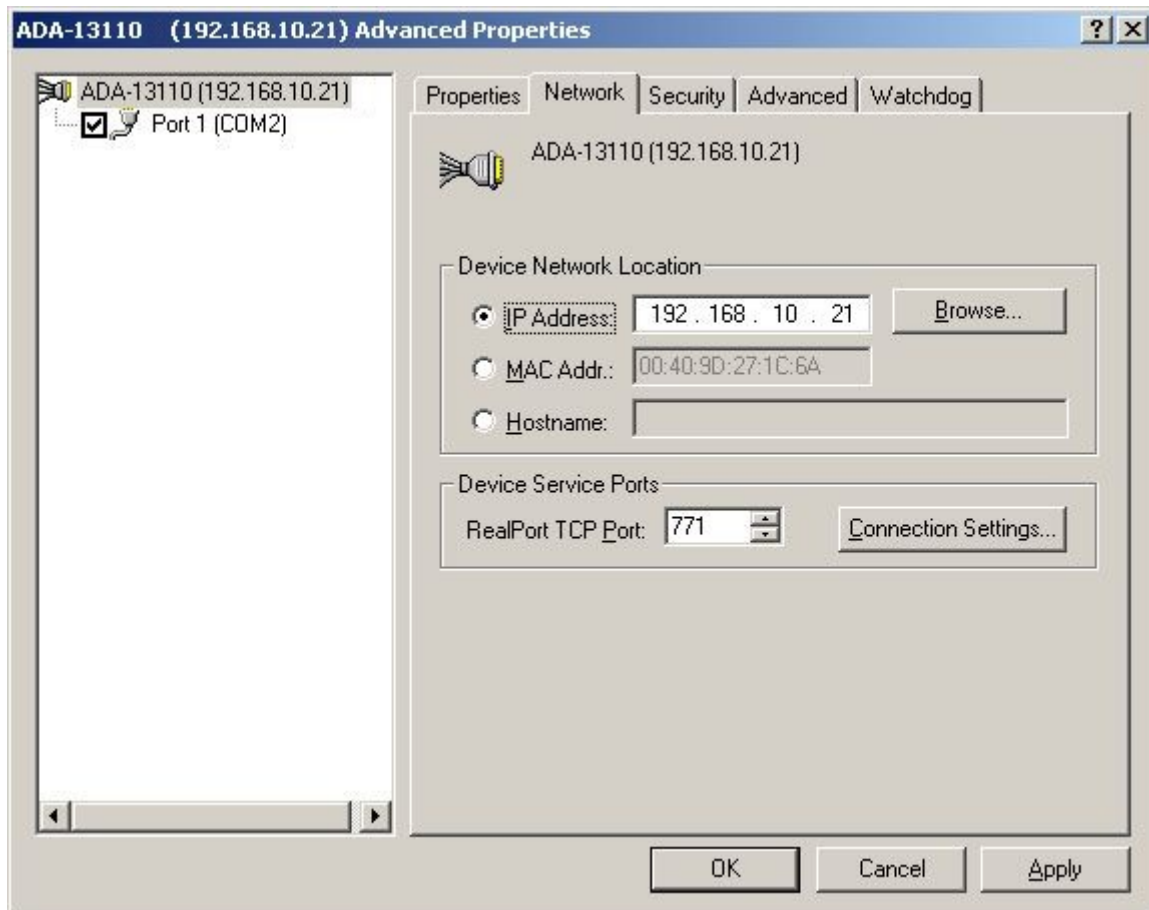

Fig 21. Example configuration of multi-port serial adapter
8. **Select IP address, MAC, DNS server for communication with virtual port driver**. In the window [**Advanced Properties**] click [**ADA-13110**] and then select [**Network**] (Fig. 21), and set the **IP address, MAC Address** or **DNS name** of the wireless serial server for communication with virtual port driver.